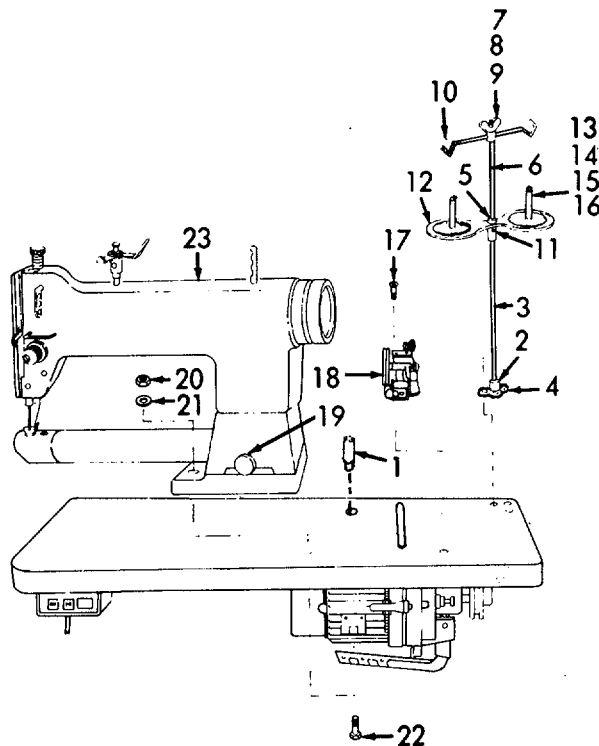

Figure 2-63. Darning Sewing Machine, Removal.
(18) Tighten the two wingnuts (9).
(19) Install crossbrace (8), and secure with two bolts (7), two flatwashers (6), two lockwashers (5), and two wingnuts (4).
(20) Place folding stand (10) into cabinet.
f. Disassembly of Darning Sewing Machine (Refer to Figures 2-63 and 2-64).
(1) Refer to Figure 2-63. Remove sewing machine rest (1) and store in storage box number 3.